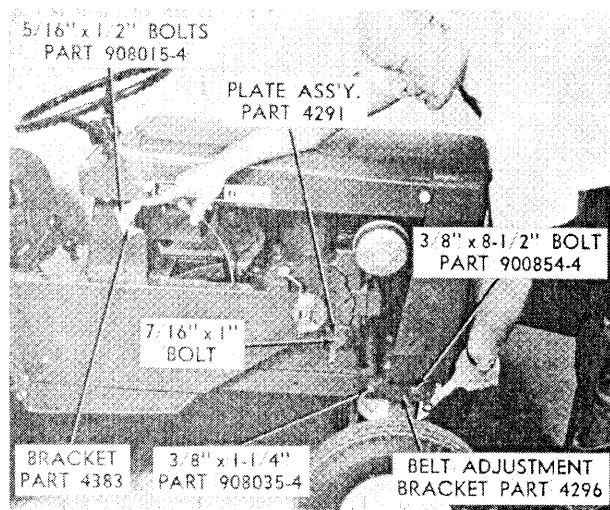

Figure 4
Mount plate assembly, Part 4291, to engine face by removing $\frac{7}{16}$ x 1" bolt (which holds lower belt guide angle on) and place plate assembly in position as shown in Figure 4. Replace bolt and lockwasher and tighten.
Install bracket, Part 4383, to tractor as shown in Figure 4 using (2) $\frac{5}{16}$ " x $\frac{1}{2}$ " bolts, Part 908015-4 and $\frac{5}{16}$ " lockwashers.
Install belt adjustment bracket as shown in Figure 4 using $\frac{3}{8}$ " x $8\frac{1}{2}$ " bolt, Part 900854-4 in the front hole of the tractor frame and the $\frac{3}{8}$ " x $1\frac{1}{4}$ " bolt, Part 908035-4 in the rear bracket hole.